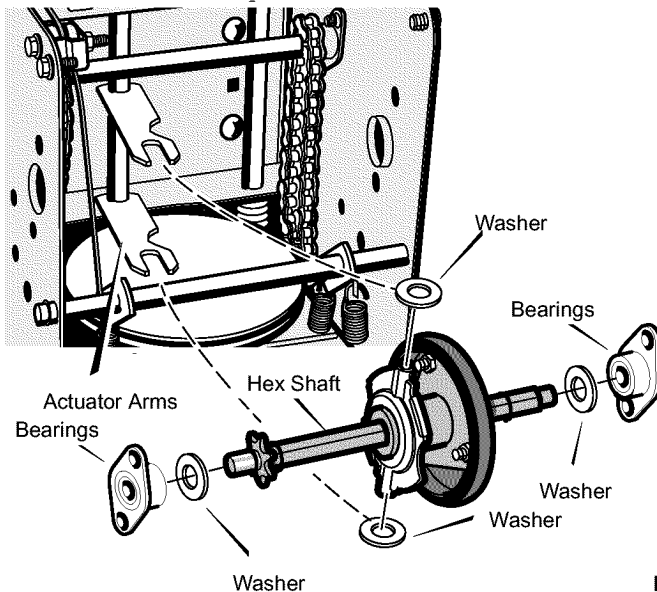

Figure 35
14. Install the **hex shaft** and **bearings** with the four bolts removed earlier (see Figure 35).